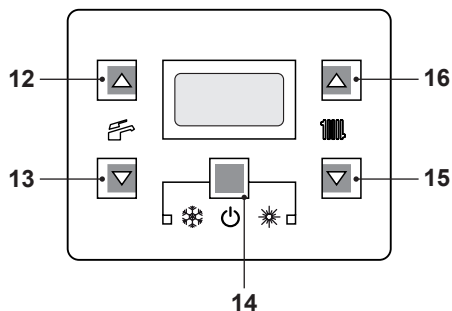
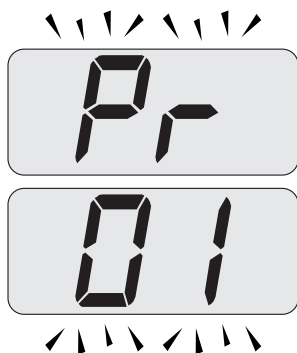

Fig. 8.3
Fig. 8.4
- Enter in "programming mode" by pressing keys 14 - 15 - 16 (Fig. 8.3) for 10 seconds at the same time until the letters **Pr** that alternate with code **01** are displayed on the LCD display, indicating that "parameter 01" (Fig. 8.4) has been activated.
- Press keys 14 and 16 (Fig. 8.3) at the same time until the value of parameter 05 (00=G20) is displayed on the LCD display (Fig. 8.6).
- By pressing key 16 three times, it is possible to change the value of parameter 05 from **00**=G20 to **05**=G31, which is ok for LPG gas.
- By pressing key 14 (Fig. 8.3) confirmation of the inserted value is obtained.
- Press keys 14 and 15 (Fig. 8.3) at the same time to exit without changing the value (return to the parameters list Fig. 8.5).
- Press keys 14 - 15 - 16 (Fig. 8.3) at the same time for 10 seconds to exit the "programming mode".